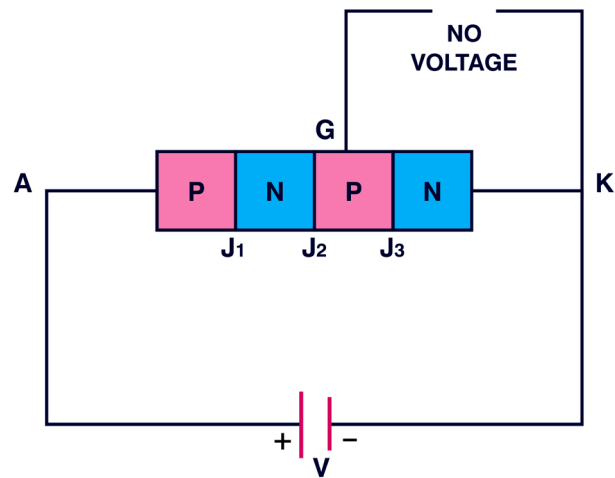

Fig.6.7 SCR with gate open
(1) **When the Gate is open:** Fig. 6.7